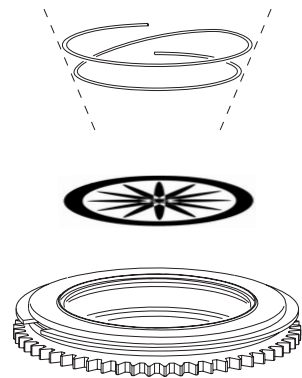

Figure 11: Rotating goboholder
The gobos are held in goboholders by a retention spring (see Figure 11). Note that the retention spring can only be used with gobos maximum 3 mm thick. Thicker gobos can be glued to the holder with a UV adhesive or Loctite 330 Multibond with Activator.
- Insert the new gobo in the holder with the side that faces towards the LEDs facing upwards, towards the spring (see Figure 8 and Figure 11).
- Insert the spring with the narrow end against the gobo, as shown in Figure 11. To identify the narrow end, press the spring flat: the narrow end is on the inside. Push the end of the spring in under the lip of the holder.